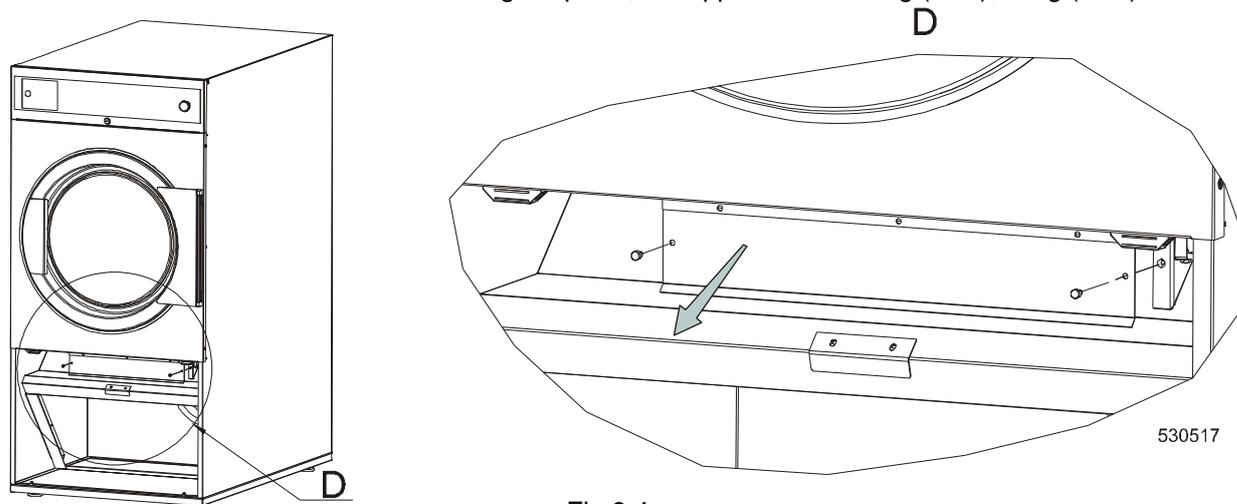

Fig.9.4.
6. Remove the lint filter cover. Remove the cover below the drying drum, fig. 9.4. Clean the inner space with vacuum cleaner. Return the lint filter cover to its original place, not applicable for 24kg (53lb), 35kg (77lb).